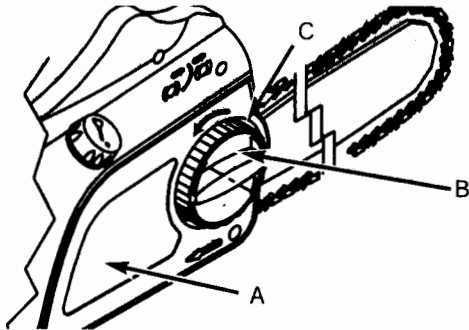

Fig. 17
2. Loosen knob (B) slightly by turning knob counter-clockwise and then turn the chain tension ring (C) counter-clockwise to relief chain tension (Fig. 17).
3. To remove the sprocket cover (A), turn knob (B) counter-clockwise. (Fig. 17)